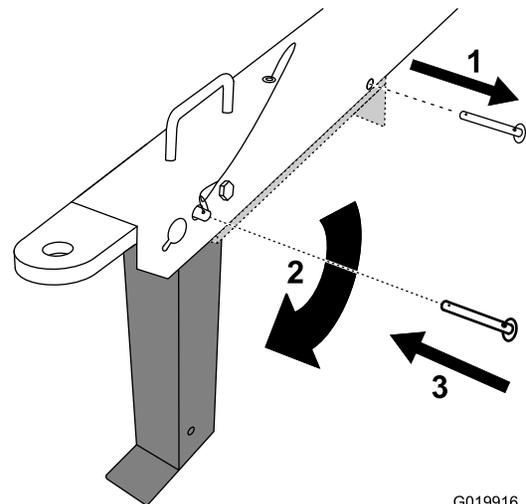

Figure 30
6. Pull the clevis pin out from the front stabilizer leg and the tongue (Figure 30).
7. Rotate the front stabilizer leg down toward the ground (Figure 30).
- Push the clevis pin through the front hole in the tongue and the front stabilizer leg (Figure 30), and carefully lower the machine to the ground.